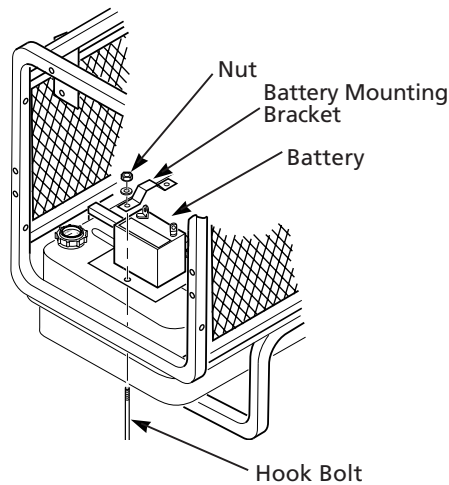

Figure 16 – Battery Hold-Down System (Model 3WY47 Shown)
NOTE: Model 3WY47 battery is located on opposite side as shown (See Figure 16).
3. Locate the black, negative (-) battery cable attached to engine block. Connect it to the negative (-) battery terminal (See Figure 16).